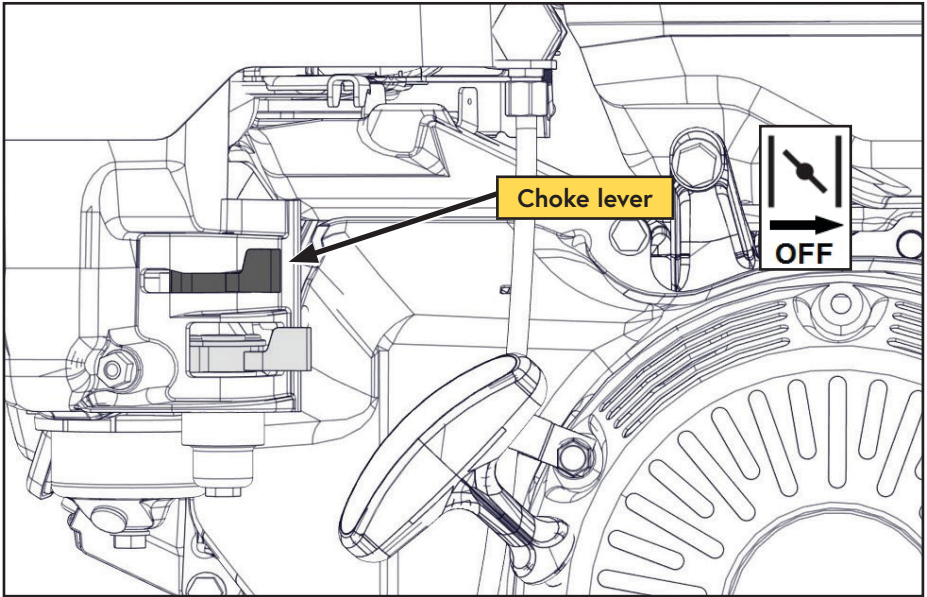

Figure 18 — Choke
7) Once the engine is running, gradually open the choke by moving the choke lever to the right as the engine warms up (Figure 18).